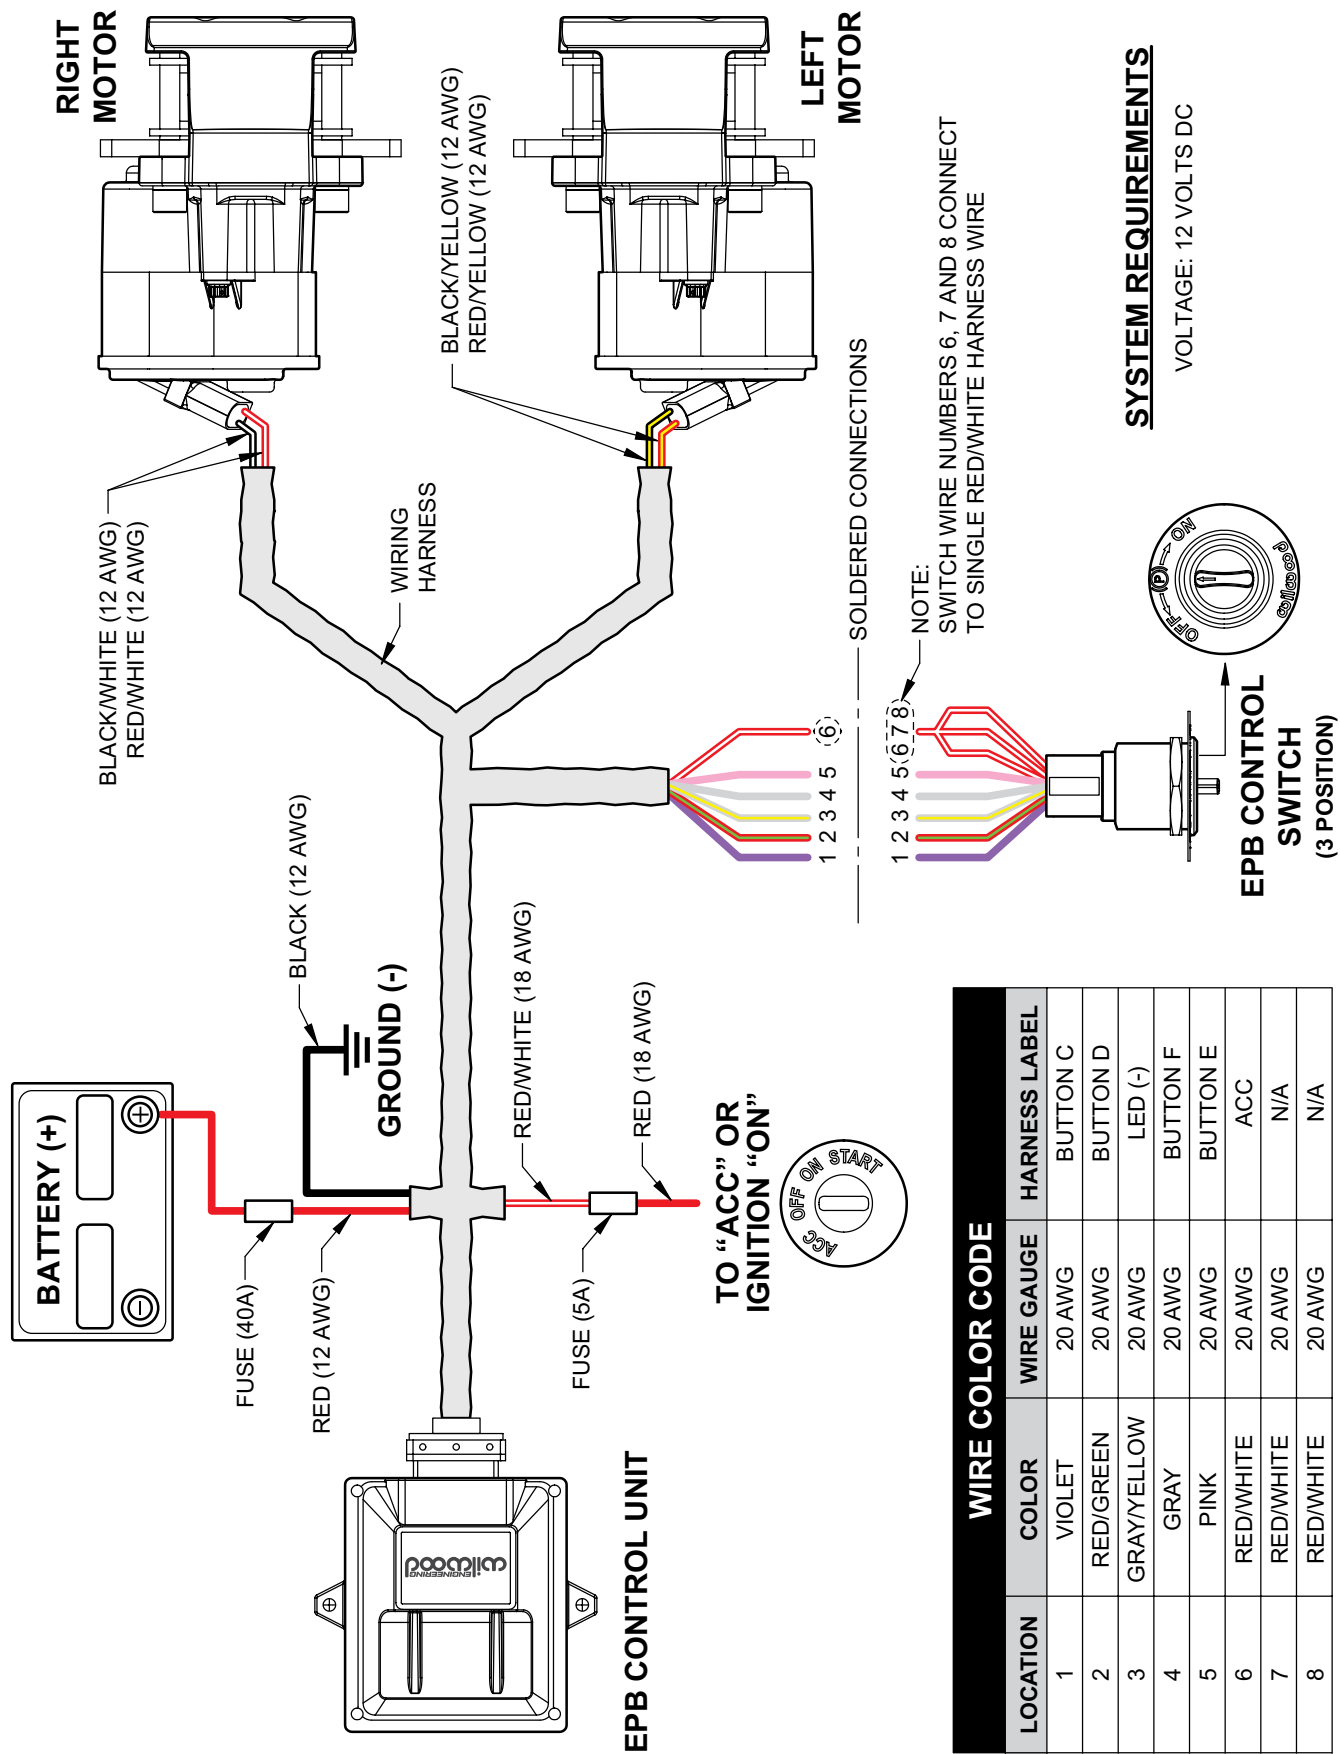

Figure 4. EPB Wiring Diagram
- EPB WIRING HARNESS - All wiring harness leads are labeled – refer to wiring diagram, Figure 4. Carefully route harness cables/wires to prevent contact with moving or rotating components and away from heat sources and pinch points. **NOTE: Wilwood EPB harness is designed for use in many different vehicle applications and it is the installer's responsibility to properly route cables/wires and ensure adequate clearance and retention for EPB components.**
Wiring Installation - Refer to wiring diagram, Figure 4